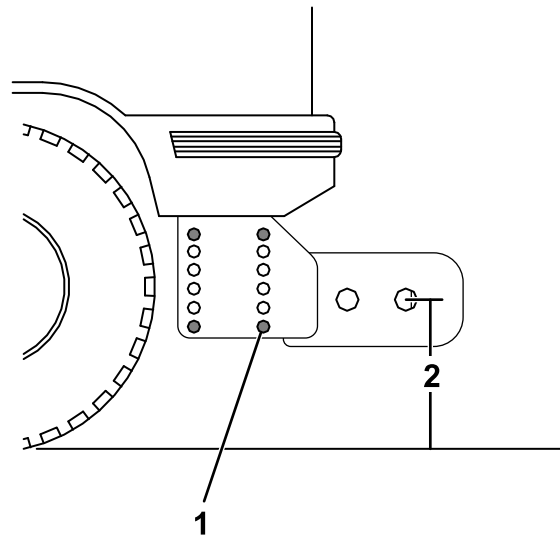

Figure 23
1. Measure the distance from the ground to the attachment pin holes on the undercarriage pushbeam (Figure 23). The distance should be 48.2 cm (19 inches).
2. If the pushbeam is not at 48.2 cm (19 inches), remove the fasteners securing the pushbeam to the undercarriage (Figure 23).